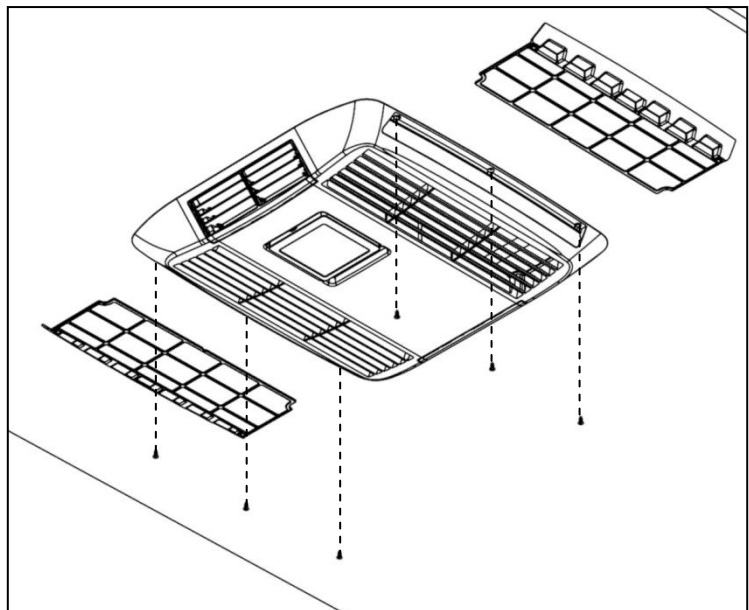

Fig 16: Remove the plenum filters and use the six self tapping screws to secure the plenum over to the ceiling of the caravan. Be sure not to over tighten.
TIP: Tip: Remove the filters to make hole alignment easier. See Fig 16.
- Remove the filter elements by pulling them out of the plenum, and use the six self tapping counter sunk screws to secure the cover's edges to the caravan ceiling (Fig 16). In some instances a very small pilot hole may need to be drilled to guide the screws into place.